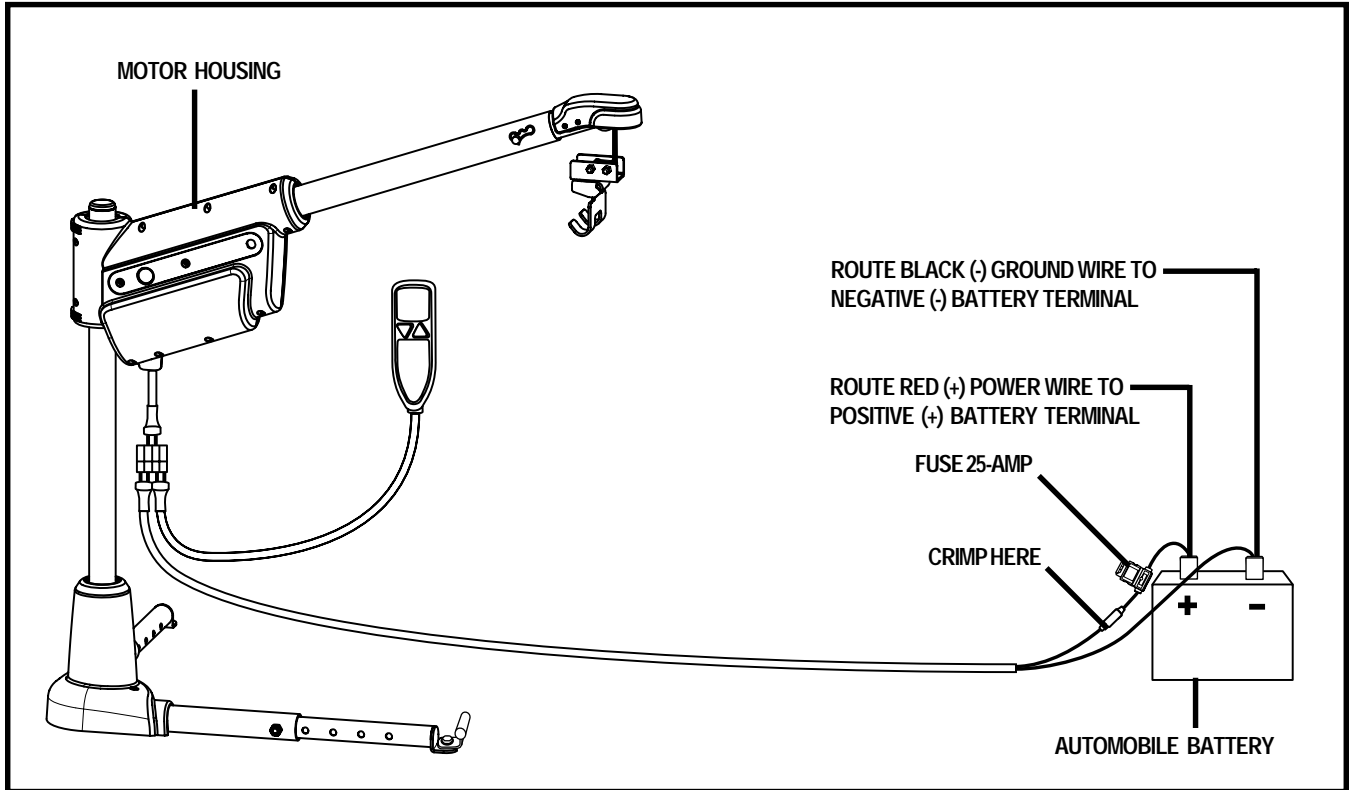

Figure 13. SilverBoom 300 Electrical Wiring Connections
1. Route the lift's long power wire (starting at the lift) through the interior of the vehicle until you reach the automobile battery. **See figure 13 and 13A.** Conceal the wire behind or under the interior panels (there should be existing holes). Be certain that the wire is protected with a rubber grommet when passing it through the metal panels and into the engine compartment. Inside the engine compartment, secure the wire to the firewall and the inner fender with the supplied plastic wire ties. Use care not to cause abrasions to the power wire. It is important to secure the power wire at various points along its run.
NOTE: If installed in a trunk, disconnect the black-red power harness (see figure 13 or 13A) and remove the motor housing and upper post and place it in an area where it will be secure. The height of the boom-arm will not allow the trunk to close.